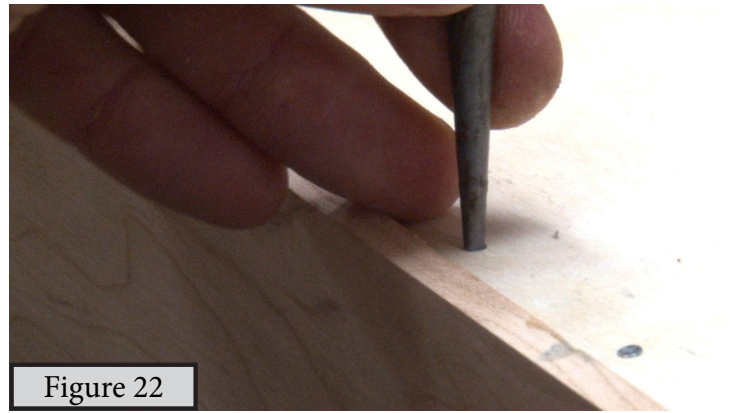

Figure 22
22) Use a hammer and nail set or flat head screwdriver to sink the nails or staples just below the surface. This will keep them from interfering with the trim strips. Don't drive the nails too deep. High humidity could cause the wood to swell over the heads of the nails, in the future. (Figure 22)